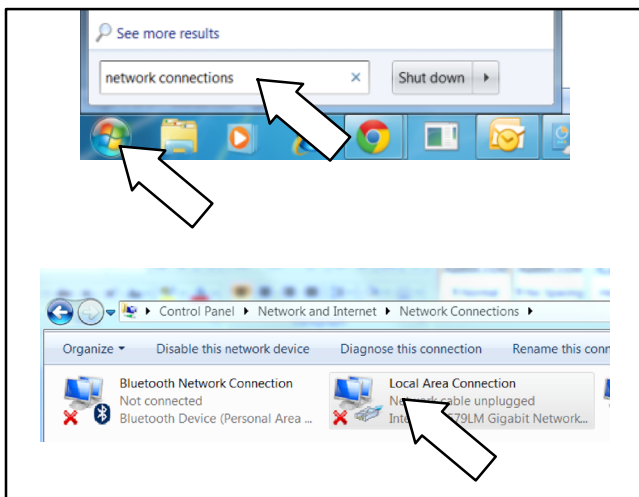

Figure 8 Selecting the Local Area Network Connection
- 5.1 Click on the the Windows start menu icon in the lower left corner of your screen. See Figure 8.